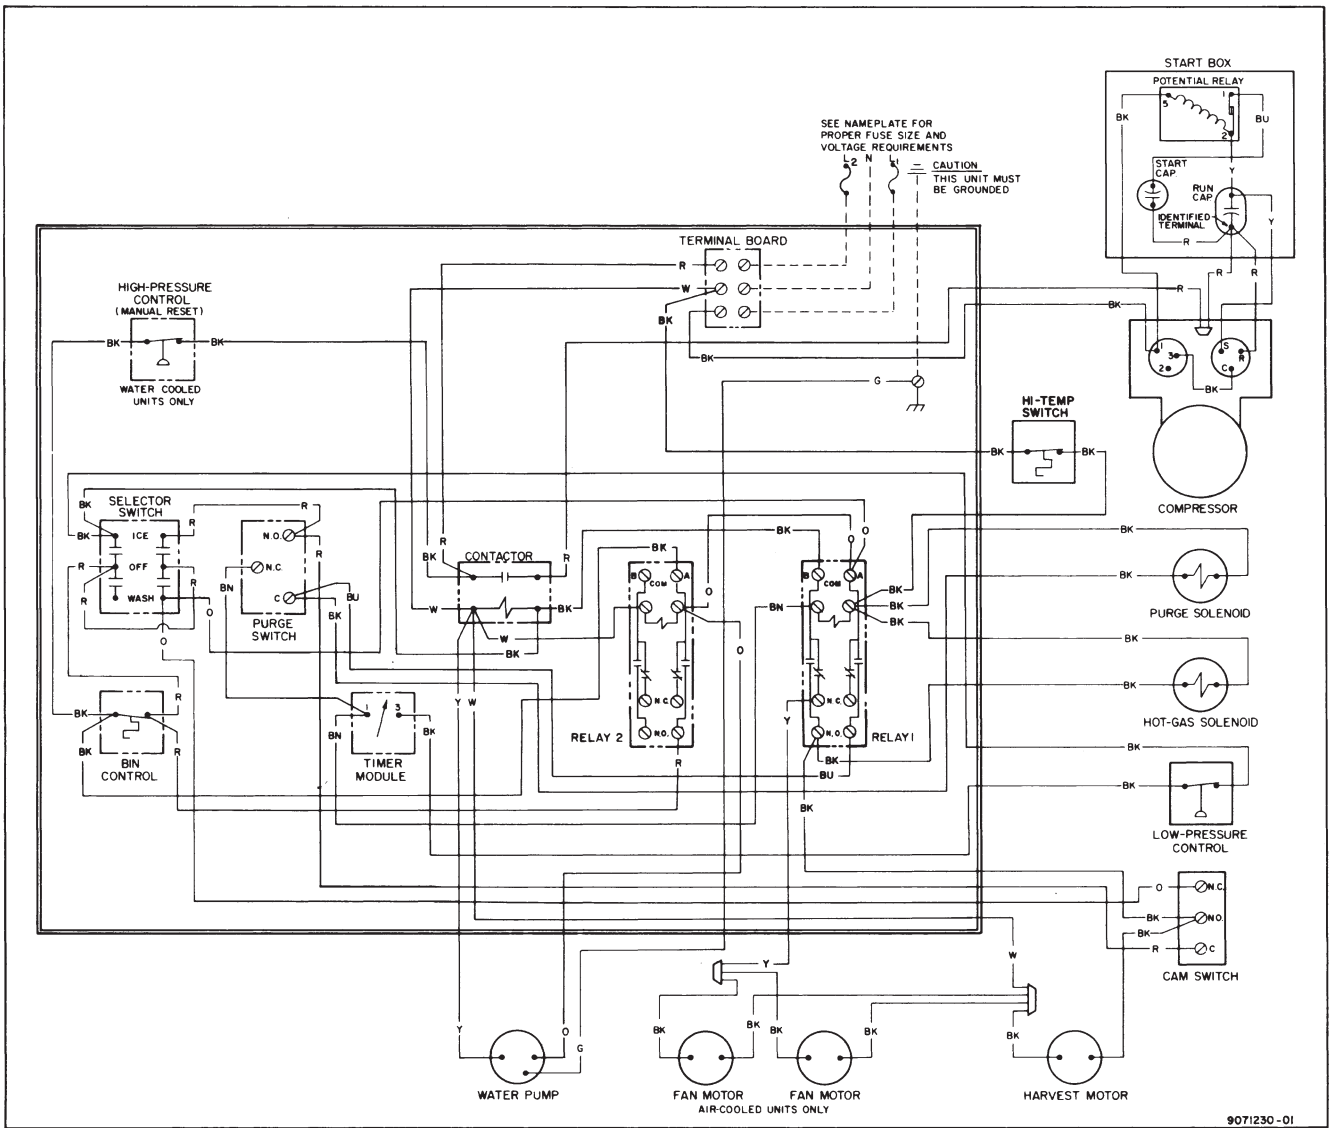

FIGURE 26-16 C-61 ice maker. (Photo courtesy of Ice-O-Matic.)
- Figure 26-16 shows an interconnection diagram for the C-61 ice maker. Use a highlighter or other method to indicate which wires are at L1 voltage and a different color to indicate which wires are at L2 voltage during the “freeze” cycle.
- Redraw the diagram in Figure 26-16 as a ladder diagram. Show all the wire colors. You may combine the gear motor, its start relay, and capacitor into a single circle in your diagram. The same applies for the compressor motor.
- Referring to Figure 26-16, what type motor is the compressor motor?
- Referring to Figure 26-16, the bin control contacts have a set of contacts in parallel with them. What relay provides these contacts?
- Referring to Figure 26-16, what do these contacts (5) provide for?